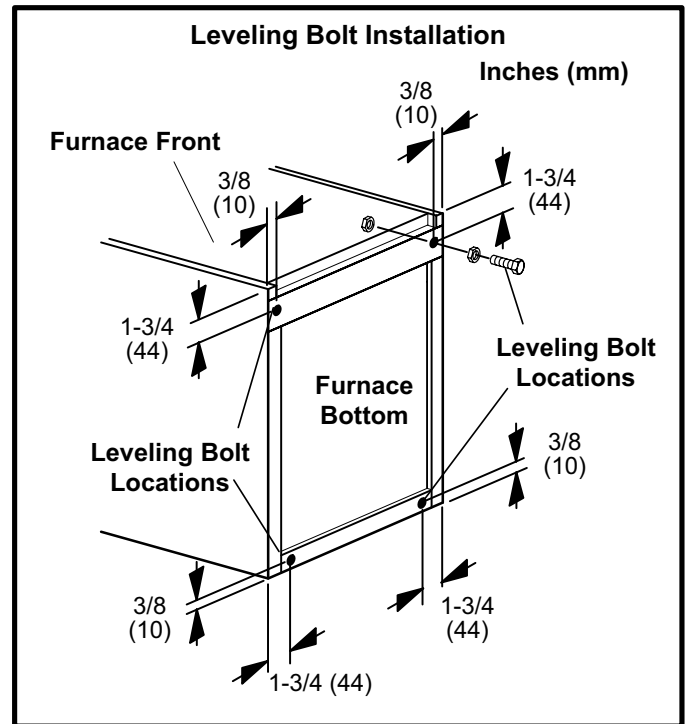

FIGURE 10
When the side return air inlets are used in an upflow application, it may be necessary to install leveling bolts on the bottom of the furnace. Use field-supplied corrosion-resistant 5/16 inch machine bolts (4) and nuts (8). See figure 10.
- 1 - Lie the furnace on its back and drill a 5/16 inch diameter hole in each corner of the furnace's bottom. See figure 10 for the correct location of the holes. Drill through the bottom panel and the bottom flange of the cabinet.